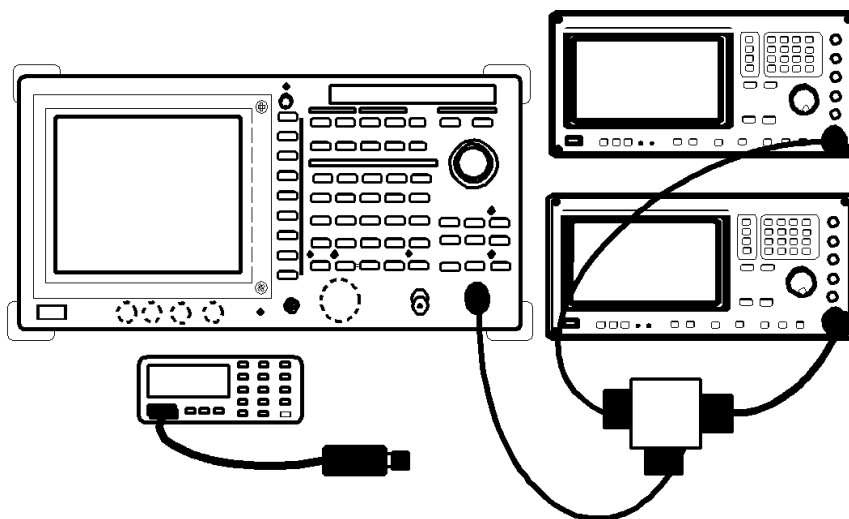

Figure 1-13 Setup for Measuring a Third Order Intermodulation Distortion
3. Connect the signal generators as shown in Figure 1-13.